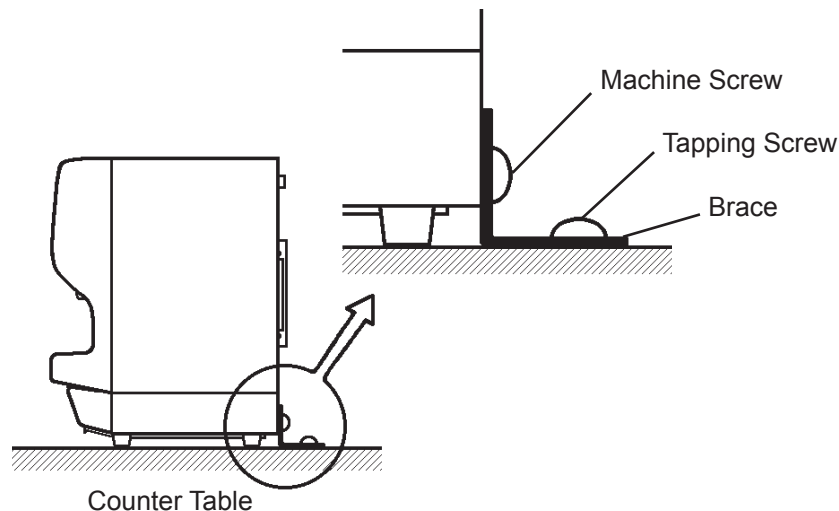

Fig. 2
- * Secure the ice dispenser to the counter table by using the brace, machine screws and tapping screws (accessory). See Fig. 2.